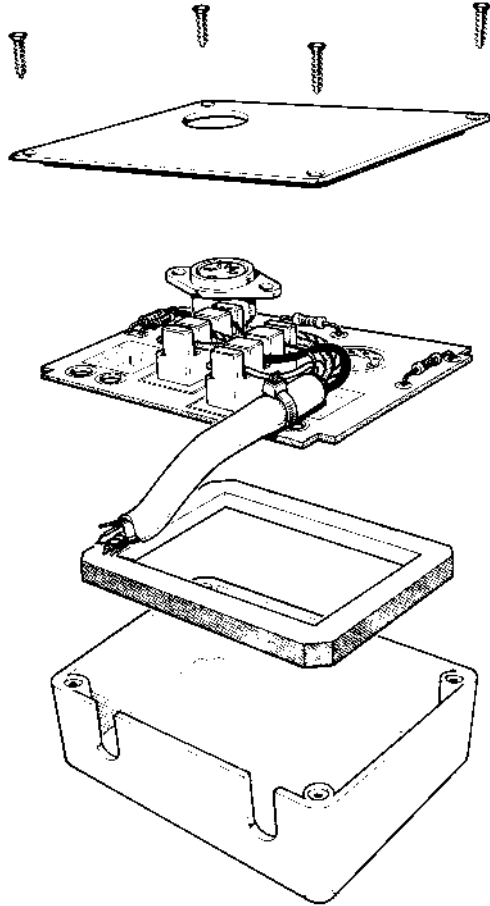

Figure 4: Wiring a terminator box
3. When the wires are in place, fasten the cable to the board using the cable grips and cut off any excess cable protruding from the connectors. Figure 4 shows a correctly wired terminator.